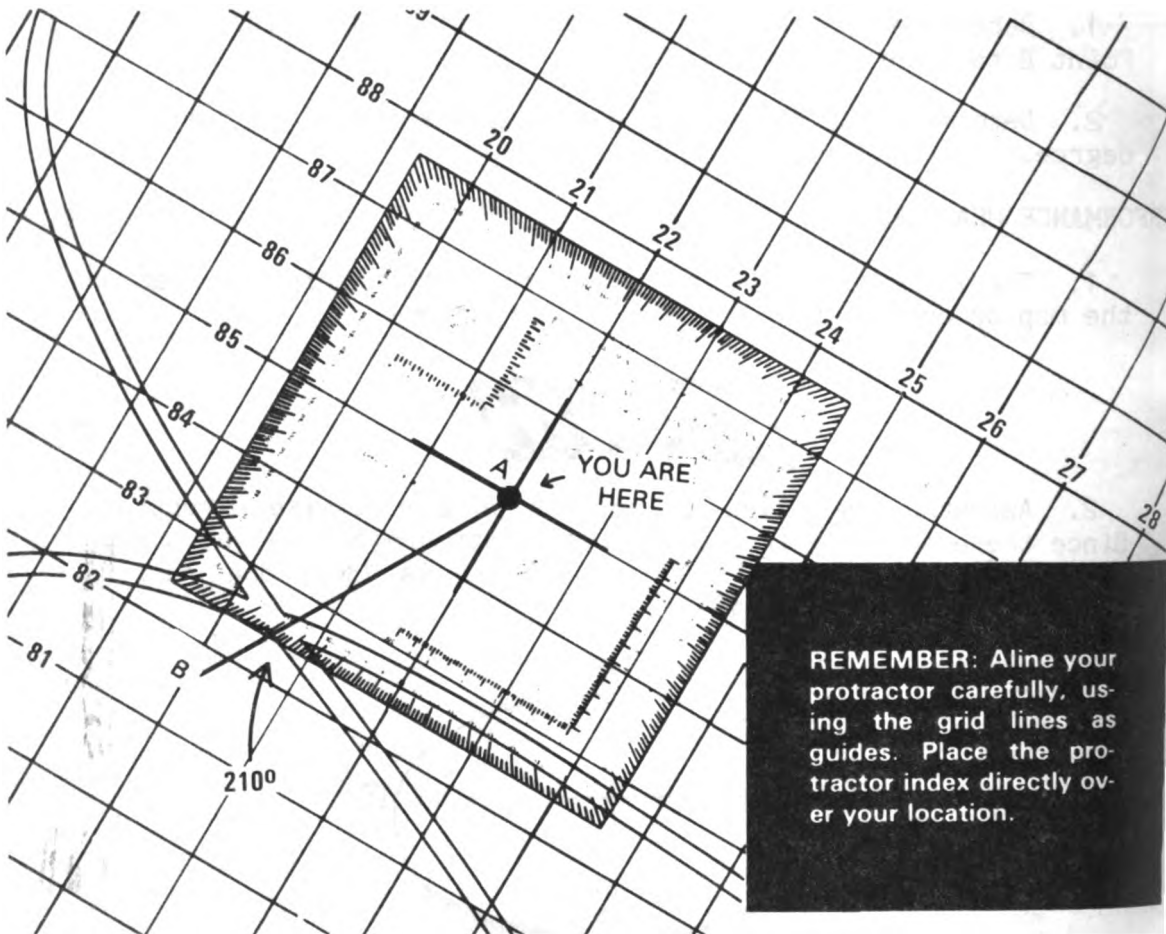

Figure 1
a. Determine your location (Point A) and the location of the other point (B) on the map (see fig. 1).
Suppose you follow the 210° azimuth in figure 1 to the road junction, and then you want to go back to your original location. To do this, you take a BACK AZIMUTH. You simply subtract 180 from the first azimuth. Your back azimuth is $210 - 180 = 30^\circ$.